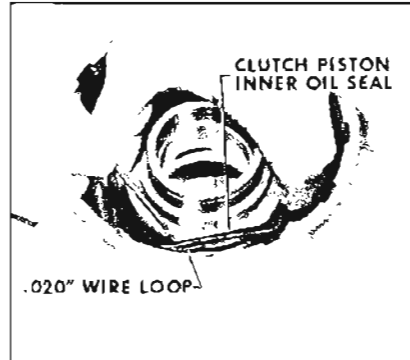

Figure 5-228
3. Lubricate with transmission oil and install new forward clutch piston inner seal with seal lip pointing downward. See Figure 5-228.